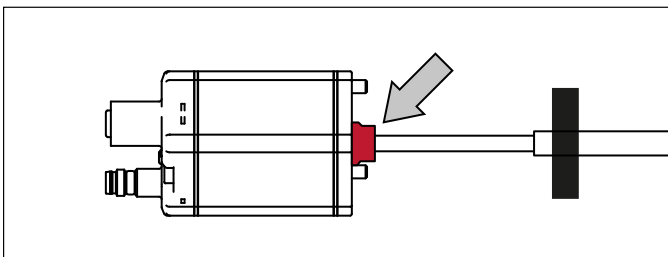

Fig. 32: Remove sealing before inserting into sensor rod HD/HL/HP
- The base unit is mounted by means of three screws. It is the only part that needs to be replaced if servicing is required, i.e. the hydraulic circuit remains closed. Before inserting the base unit into the sensor rod HD/HL/HP, remove the red sealing at the transition between the sensor electronics housing and the flexible sensor rod (Fig. 32). For more information see chapter "4.11.1 Replacement of base unit on the RH5/RFV/RF5 model" on page 57.